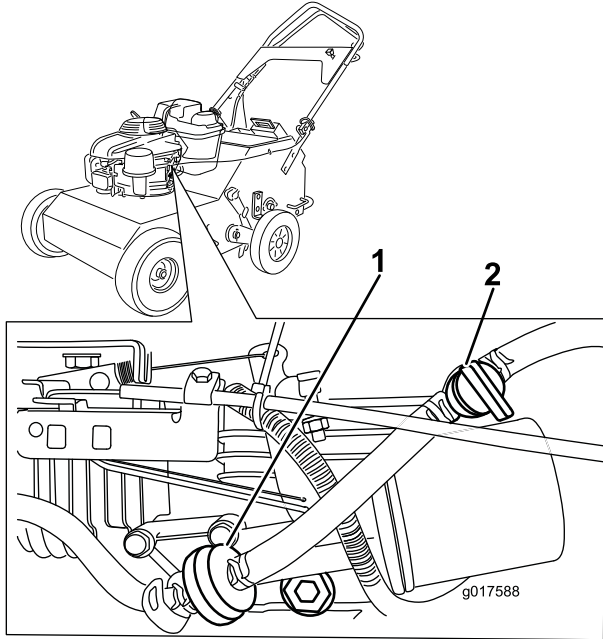

Figure 9
2. Open the fuel valve by turning it in-line with the fuel hose (Figure 9).
3. Move the throttle control all the way forward to the CHOKE position (Figure 9).